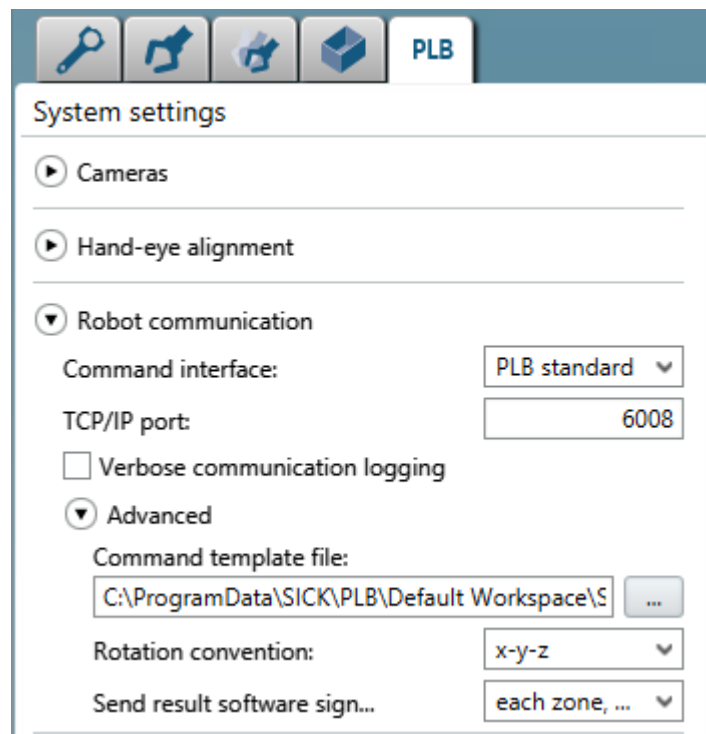

Figure 89: Specifying the template file for communication with the robot controller
1. Make sure that PLB Studio is using the template file **RobotInterface_CSVTemplate.cfg** to communicate with the robot controller. You will find the corresponding setting under **System settings > Robot communication > Template file** (see figure 89, page 101).